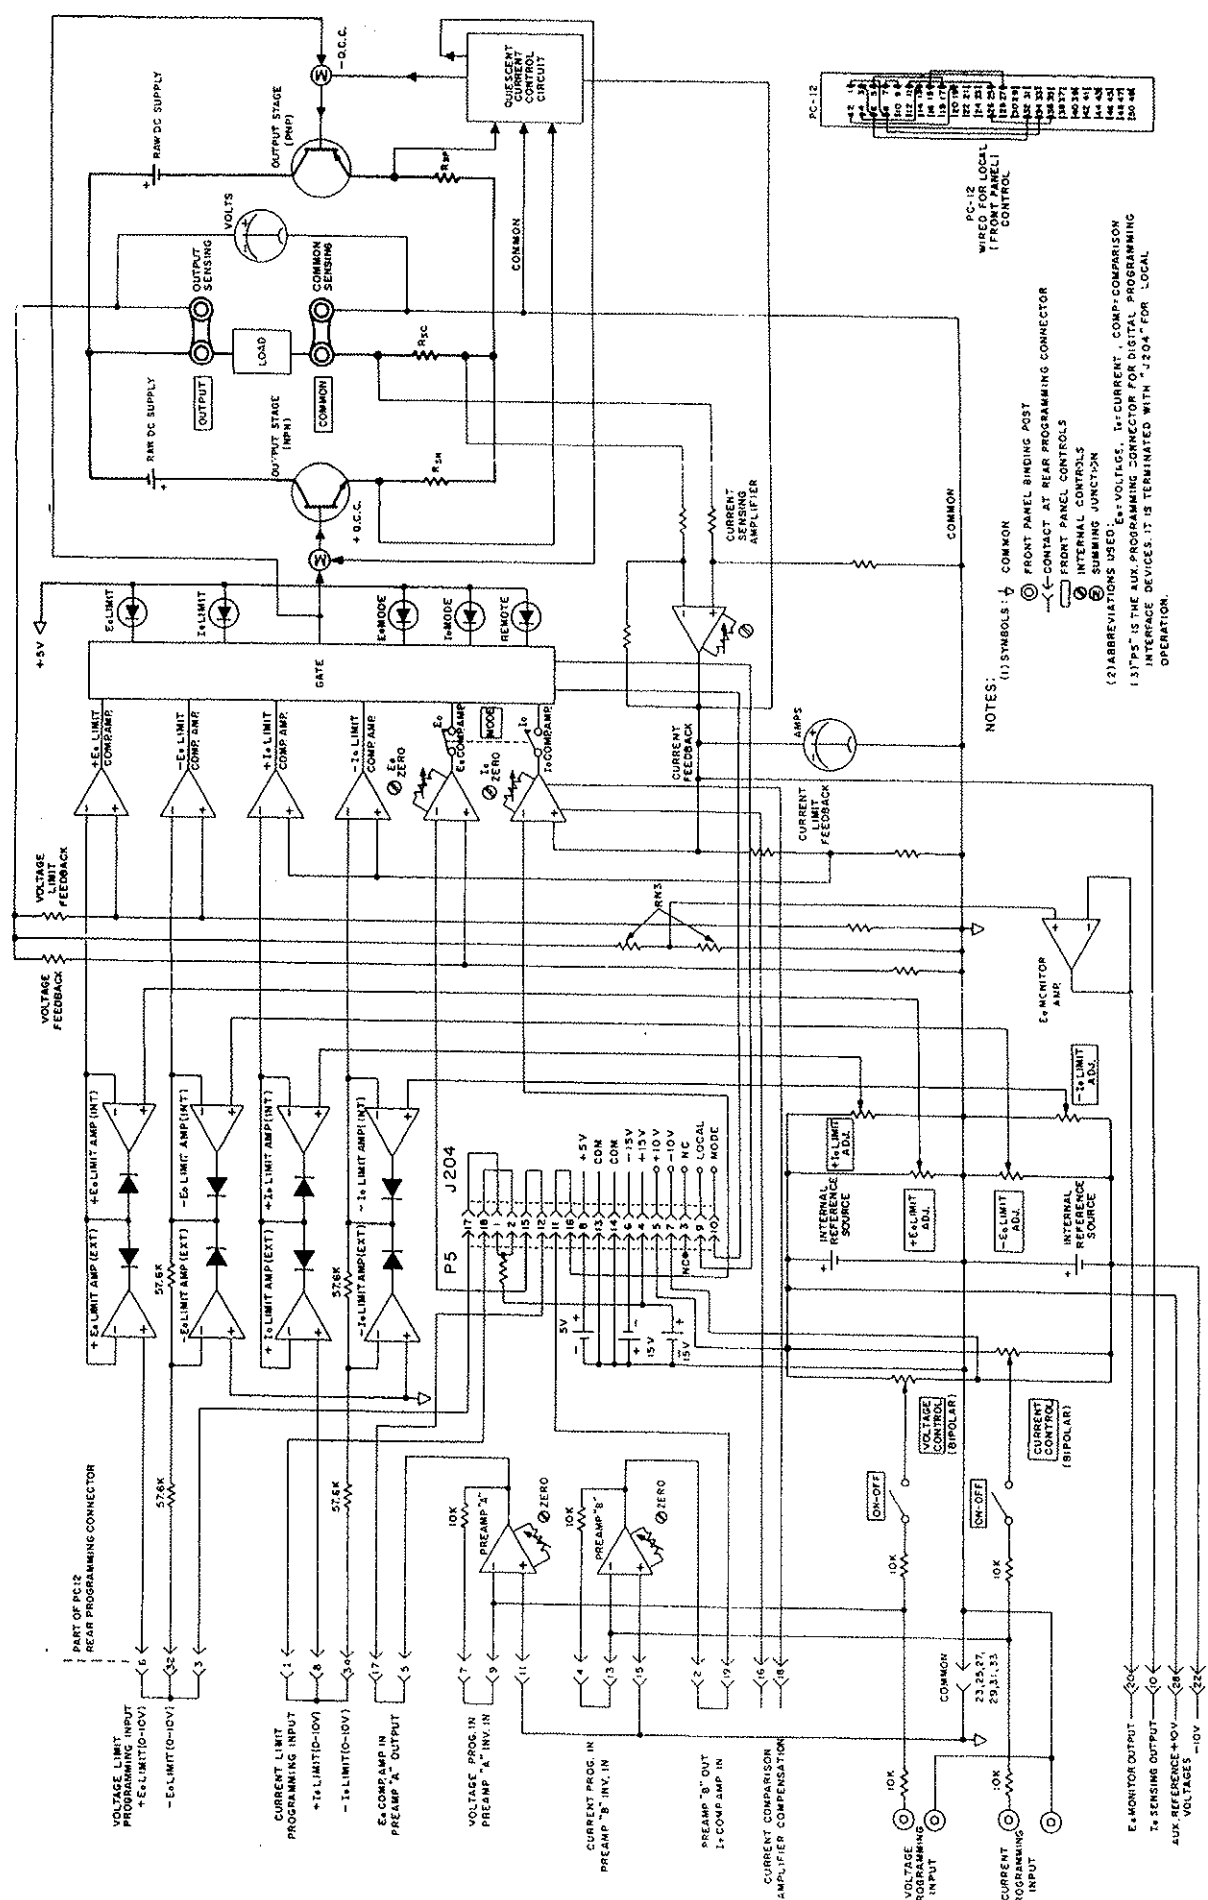

FIG. 4-5 SIMPLIFIED SCHEMATIC DIAGRAM, BOP SERIES.
4-3 SIMPLIFIED DIAGRAM ANALYSIS (REFER TO FIG. 4-5)
4-5 BIPOLAR OUTPUT STAGE. The bipolar power output stage consists of two groups of PNP/NPN power transistors (only one PNP and one NPN transistor is shown in FIG. 4-5. The actual number of PNP and NPN power transistors depends on the BOP model), two RAW D-C SUPPLIES, the QUIESCENT CURRENT CONTROL CIRCUIT and the three current sensing resistors (R_{SP} , R_{SC} , R_{SN})⁽¹⁾.
- 4-11 $\pm 10V$ REFERENCE SUPPLY. The BOP dual d-c ($\pm 10V$) bias and reference voltage (shown as batteries on the Simplified Schematic Diagram, FIG. 4-5) are precision calibrated sources, derived from the stabilized amplifier power supply. The (\pm) 10 volt sources are available for external use on the REAR PROGRAMMING CONNECTOR with reference to COMMON. For internal biasing, they are connected to two 10-turn potentiometers (BIPOLAR control for VOLTAGE and CURRENT at the front panel). Connected via the "ON-OFF" switch to their respective control channel, the zero to (\pm) 10 volt d-c bias can control the BOP output voltage or current throughout its specified d-c output range.
- 4-12 VOLTAGE AND CURRENT LIMIT CIRCUITS. As seen from FIG. 4-5, the circuits for limiting the BOP output voltage and current are identical, except that the feedback for the voltage limit is taken from the (\pm) OUTPUT terminal, while the current limit feedback originates from the voltage drop across the current sensing resistor (R_{SC}). Both feedback signals are applied to the (+) input of their respective comparison amplifiers and dimensioned such that a zero to (\pm) 10 volt d-c signal to the (-) input of the comparison amplifier will control the voltage, as well as the current limit range. The control signal for internal control is derived from the (\pm) 10 volt reference sources and repeated by the $\pm E_o$ LIMIT AMPS or $\pm I_o$ LIMIT AMPS respectively. The control signals and therefore the $\pm E_o$ and $\pm I_o$ limits are front panel adjustable. The control signal is applied directly to the (\pm) E_o and (\pm) I_o LIMIT COMP AMPS. The $\pm I_o$ and $\pm E_o$ control resistors are multi-turn controls, accessible from the BOP front panel, allowing manual adjustment of all limits ($\pm E_o$, $\pm I_o$) over the BOP output range. The limits can also be controlled externally, by means of a 0 to (+) 10 volt, 1 mA d-c signal. For simultaneous control of the (\pm) E_o or (\pm) I_o limit, the control voltage source is connected to the REAR PROGRAMMING CONNECTOR as shown in Section III, FIG. 3-24. For individual control of the (+) E_o or I_o and the (-) E_o or I_o limit, two control voltages (0 to (+) 10V @ 1 mA) are required. They are connected as previously shown in Section III, FIG. 3-25.
STEP NO. 2: Restore ALL jumper links on the rear barrier-strip and on the REAR PROGRAMMING CONNECTOR PC-12 to those for Standard Power Supply operation (see Section IV, FIG. 4-5).
- 2) PC-12, wired for local (front panel) control must be connected (see Sect. IV, FIG. 4-5).
- Notes: 1) PC-12, wired for local (front panel) control (see Sect. IV, FIG. 4-5).